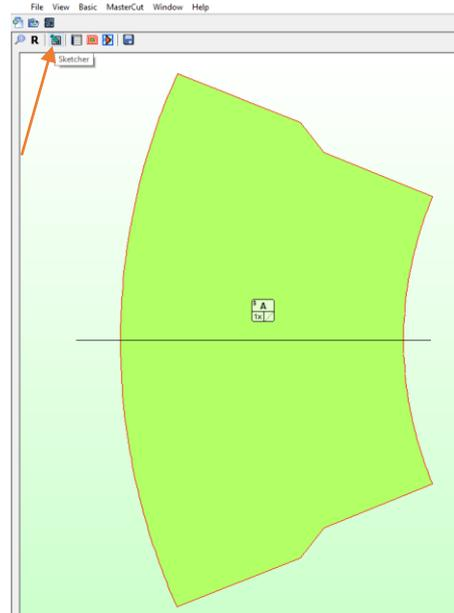

Figure 98
13. Next enter the MasterCut sketcher area by clicking on the sketcher pencil button  (Figure 98) or using shortcut **S** on the keyboard.